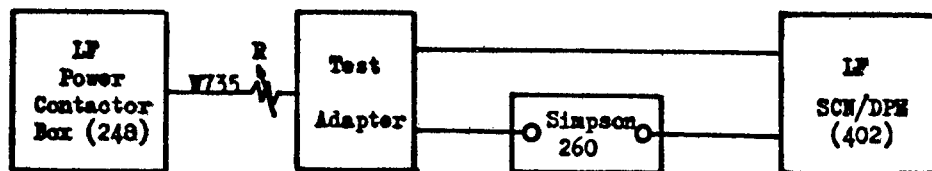

Figure 3.2.1.7-1
3.1 Connect the equipment as shown in Figure 3.2.2.2-1 with instrumentation per Figure 3.2.1.8-1.